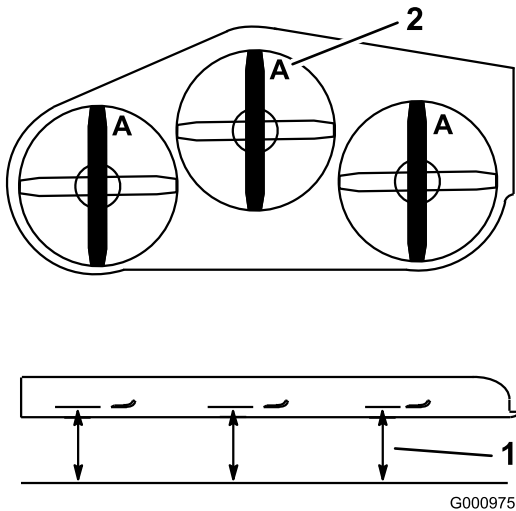

Figure 99
3. Rotate the blades until the ends face forward and backward (Figure 99).
4. Measure from a level surface to the cutting edge, position A, of the blades (Figure 99).